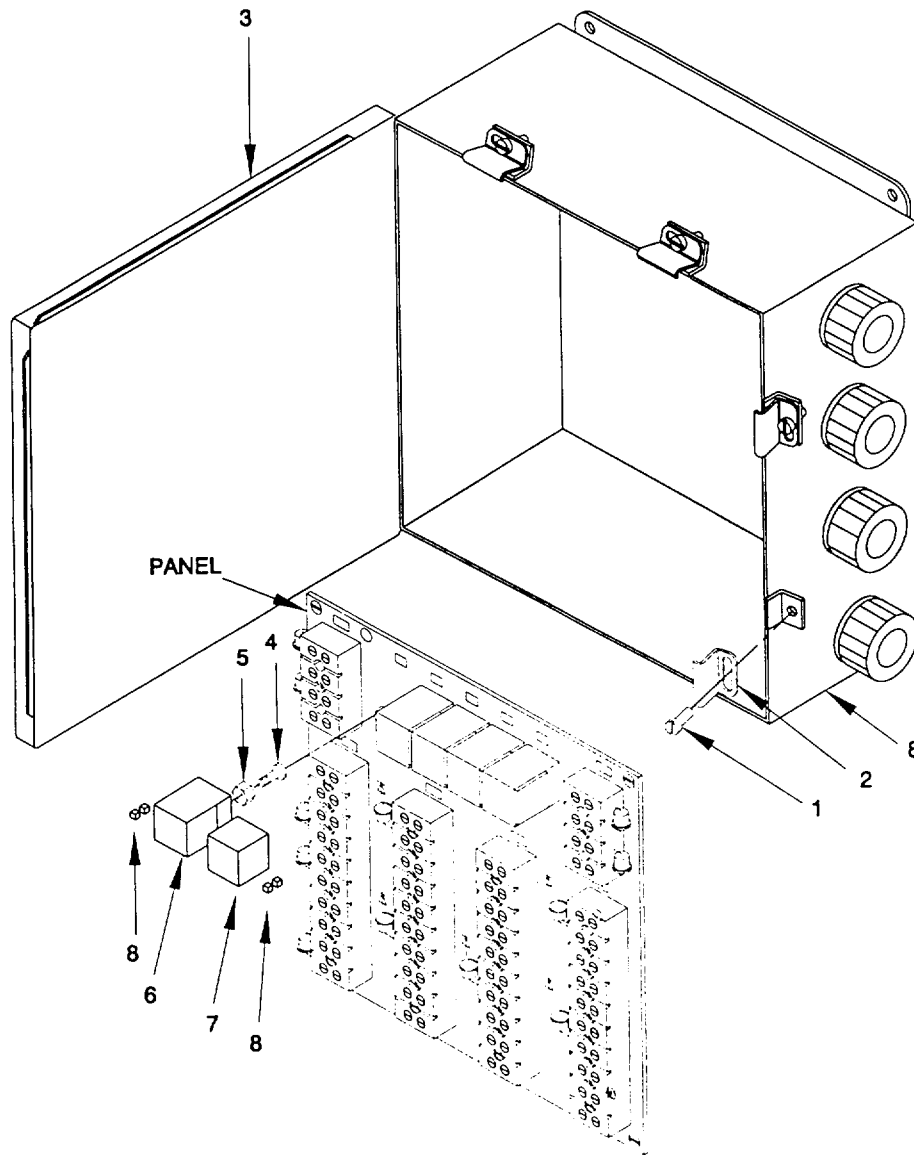

Figure 2-49. Relay, Relay Terminal, and Relay Socket, Bilge Pump Control Assembly 'AS'. Remove/Install
- a. *Remove.* (figure 2-49)
- (1) Remove six screws (1) and six latches (2) from enclosure (8).
- (2) Open hinged door (3) to gain access to electrical components within the enclosure.
- (3) Inspect all electrical components leading from the relay, relay terminal, and relay socket for corrosion and deterioration. Repair is limited to replacement of components, as necessary.
- (4) Tag all electrical connections leading from the relay, relay terminal, relay socket before disconnecting electrical wiring. Refer to Appendix G.
- (5) Remove screw (4) and nut (5) from panel.
- (6) Remove relay (6) and relay socket (7). Remove relay terminal (8) from relay (6).
- b. *Install.* (figure 2-49)
- (1) Install relay terminal (8) to relay (6).
- (2) Install relay socket (7) and relay (6) to relay terminal (8).
- (3) Coat all fasteners with antiseize compound.